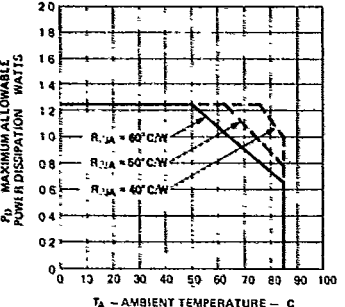

Figure 2. Maximum Allowable Power Dissipation vs. Temperature
- 2 The device should be derated linearly above 50°C at 16.7 mW/°C. This derating is based on a device mounted in a socket having a thermal resistance from case to ambient at 35°C/W per device. See Figure 2 for power deratings based on a lower thermal resistance.
The HDSP-2000/-2001/-2002/-2003 are available in standard ceramic dual-in-line packages. They are designed for plugging into sockets or soldering into PC boards. The packages may be horizontally or vertically stacked for character arrays of any desired size. Full power operation VCC = 5.25V, VB = 2.4V, VCOL = 3.5V with worst case thermal resistance from IC junction to ambient of 60°C/watt/device is possible up to ambient temperature of 50°C. For operation above 50°C, the maximum device dissipation should be derated linearly at 16.7 mW/°C (see Figure 2.). With an improved thermal design, operation at higher ambient temperatures without derating is possible.